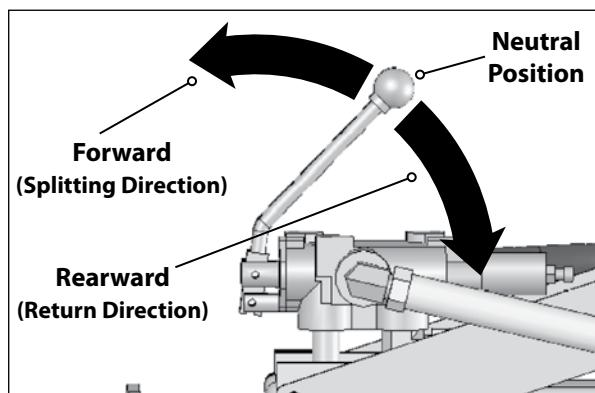

Figure 17
4. Move control lever forward to extend the hydraulic cylinder all the way. (It is normal for the cylinder to not move smoothly as it purges the air from the system.) **SEE FIGURE 17 AND/OR 18.**
5. Move control lever to the return position until ram is retracted fully. **SEE FIGURE 17 AND/OR 18.**
FIGURE 17 AND/OR 18. Check that the ram moves smoothly without jerking. Check that there is no leaking of fluids at component ports, fittings, or hoses. If leaking is found, tighten fittings or clamps until leaking goes away. If leaking doesn't go away, contact Ardisam Customer Service (800-345-6007 M-F 8:00-5:00 PM CST, or e-mail info@ardisam.com).
SEE FIGURE 17 AND/OR 18